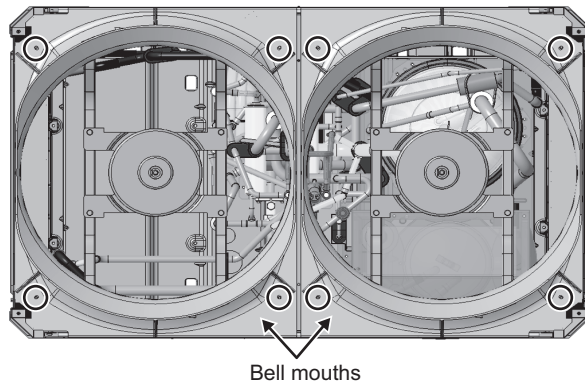

Fig. 84
(8) Remove the bell mouth. (Eight screws: Fig. 84)